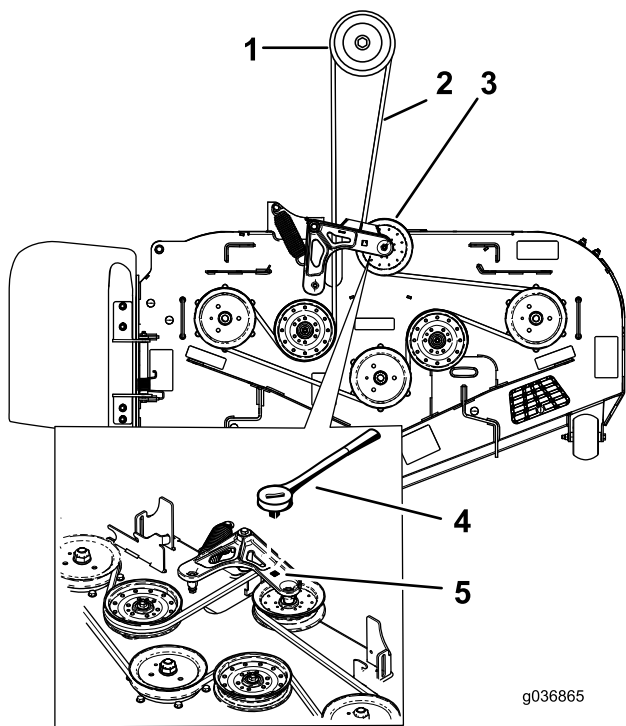

Figure 26
- On the machine, remove the spring tension from the spring-loaded idler pulley; refer to Figure 24 or Figure 26.
Note: For 2500 Series mower decks, use a ratchet in the square hole in the idler arm to remove tension on the idler spring (Figure 26).
9. Install the mower deck belt around the spring-loaded idler pulley (Figure 24 or Figure 26).